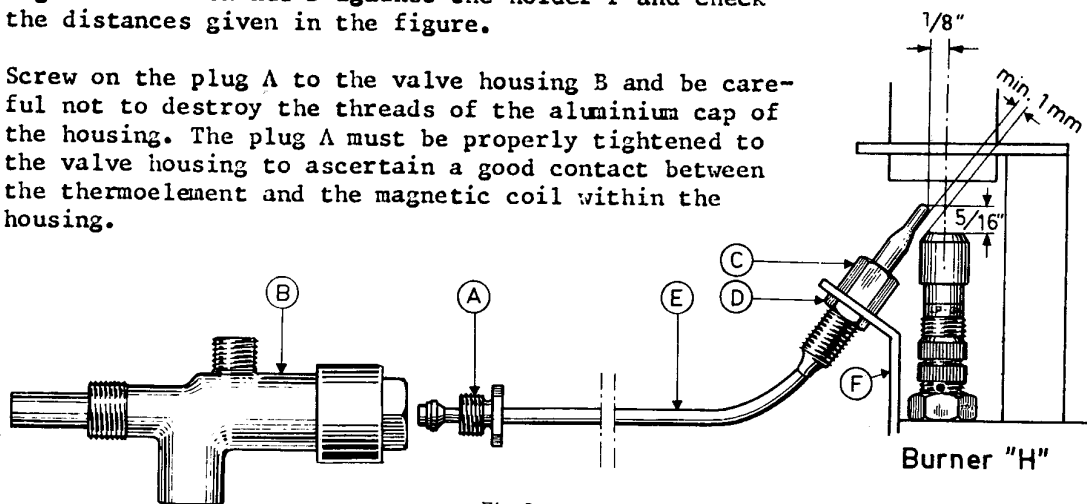

Fig. 34
1. Unscrew the plug A from the valve housing B see fig. 34.